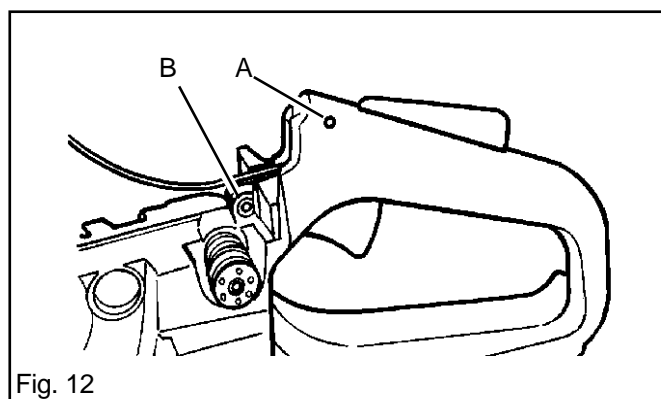

Fig. 12
2. Press out the throttle lock pivot (A) with the help of a driver. See fig. 12.
4. Press out the throttle lever pivot (B) with the help of a driver. See fig. 12.
2. Press home the throttle lever pivot (B) with the help of a driver. See fig. 12.